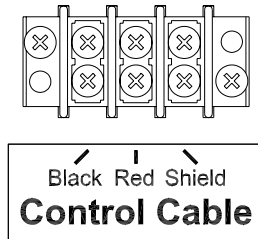

Figure 13 Control Cable Wiring Diagram
3. Connect the control cable to terminal block labeled **Control Cable** on the junction chassis according to figure 13.